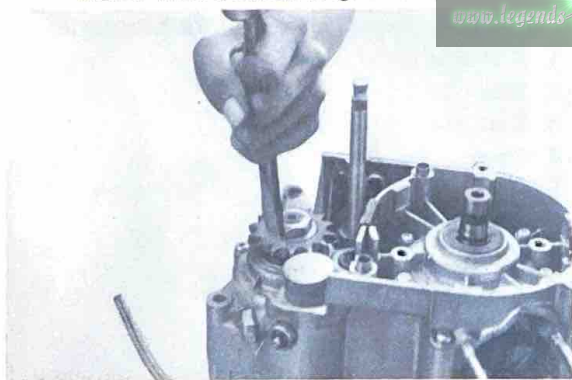

Fig. 4-13-1
- Straighten the bent edge of the locking washer with a chisel. (Fig. 4-13-1)